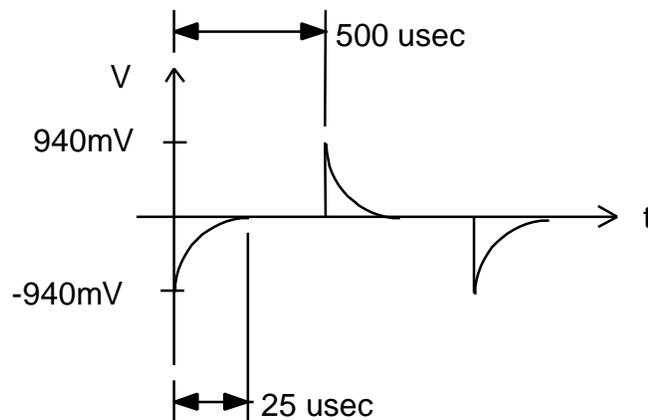

FIGURE 2
7) The output of the emitter follower amplifier (Q2's emitter) should, after approximately 10 seconds after power up, appear as illustrated below in fig. 2..
8) The output of the AD840 amplifier should have a similar wave form as fig. 2, but it should peak at approximately 10 V +/- 0.2V, instead of 940 mV. The output of the AD840 amplifier should start at a DC level of approximately -13 V, then up to +13 V and finally settle down to 0 V with the similar waveform present, all within a 10 second time frame after power up.